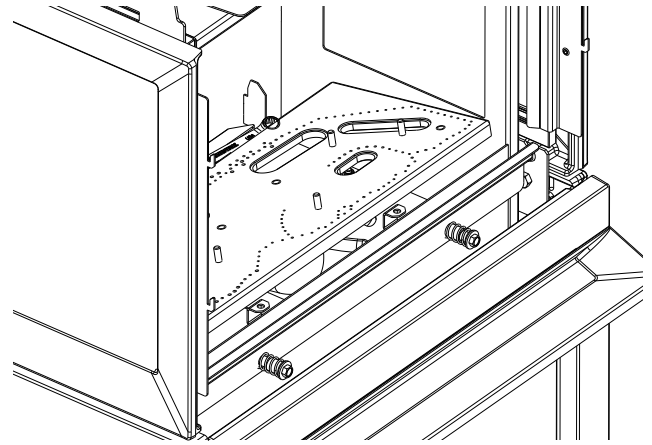

Figure 7.2. *Remove Burner.*
5. Remove the Burner: Lift the front of the burner base to disengage it from the support brackets and pull it forward off of the burner injector. Then tilt it side-to-side and pull it out through the firebox opening. Fig. 7.2.